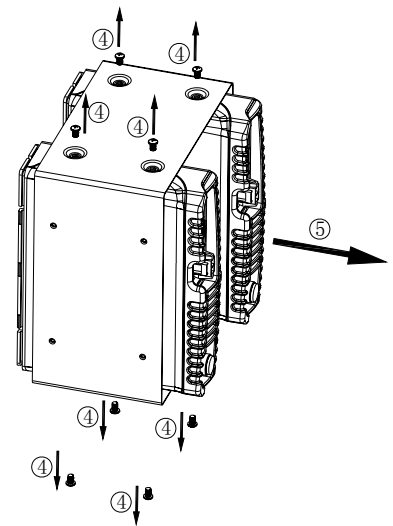

Figure 7
4. Remove the eight screws (M4.0X6.0) ④ that secure both radios using a screwdriver, and then remove both radios ⑤, shown as Figure 7.